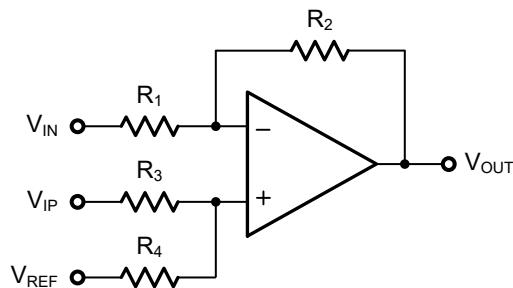
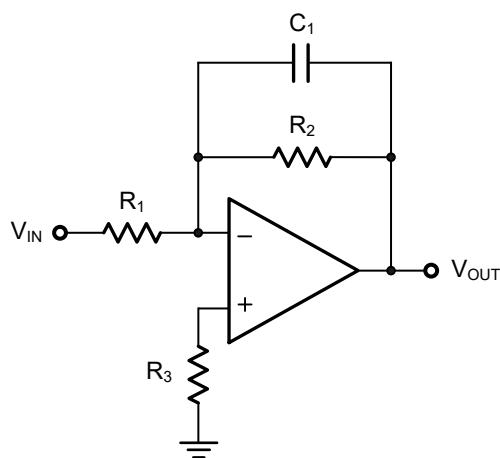

Figure 4-1 Differential Amplifier
Figure 4-2 Low Pass Active Filter
The SNA872X family is optimized for bandwidth and speed, not for driving capacitive loads. Output capacitance will create a pole in the amplifier's feedback path, leading to excessive peaking and potential oscillation. If dealing with load capacitance is a requirement of the application, the two strategies to consider are (1) using a small resistor in series with the amplifier's output and the load capacitance and (2) reducing the bandwidth of the amplifier's feedback loop by increasing the overall noise gain. Figure 4-1 shows a unity gain follower using the series resistor strategy. The resistor isolates the output from the capacitance and more importantly, creates a zero in the feedback path that compensates for the pole created by the output capacitance.
The circuit in Figure 4-2 is an improvement to the one in Figure 4-1. R_F provides the DC accuracy by feed-forward the V_{IN} to R_L . C_F and R_{ISO} serve to counteract the loss of phase margin by feeding the high frequency component of the output signal back to the amplifier's inverting input, thereby preserving the phase margin in the overall feedback loop. Capacitive drive can be increased by increasing the value of C_F . This in turn will slow down the pulse response.
The differential amplifier allows the subtraction of two input voltages or cancellation of a signal common to the two inputs. It is useful as a computational amplifier in making a differential to single-end conversion or in rejecting a common mode signal. Figure 4-1 shows the differential amplifier using SNA872X.
The low pass active filter is shown in Figure 4-2. The DC gain is defined by $-R_2/R_1$. The filter has a -20dB/decade roll-off after its corner frequency $f_C = 1/(2\pi R_3 C_1)$.